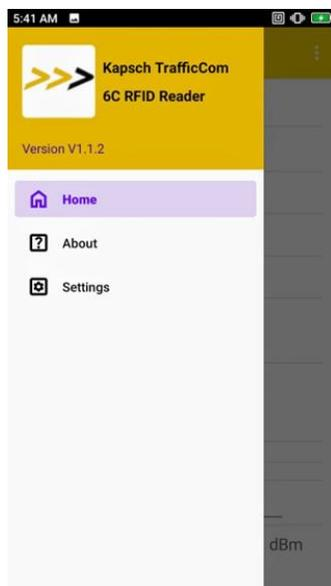
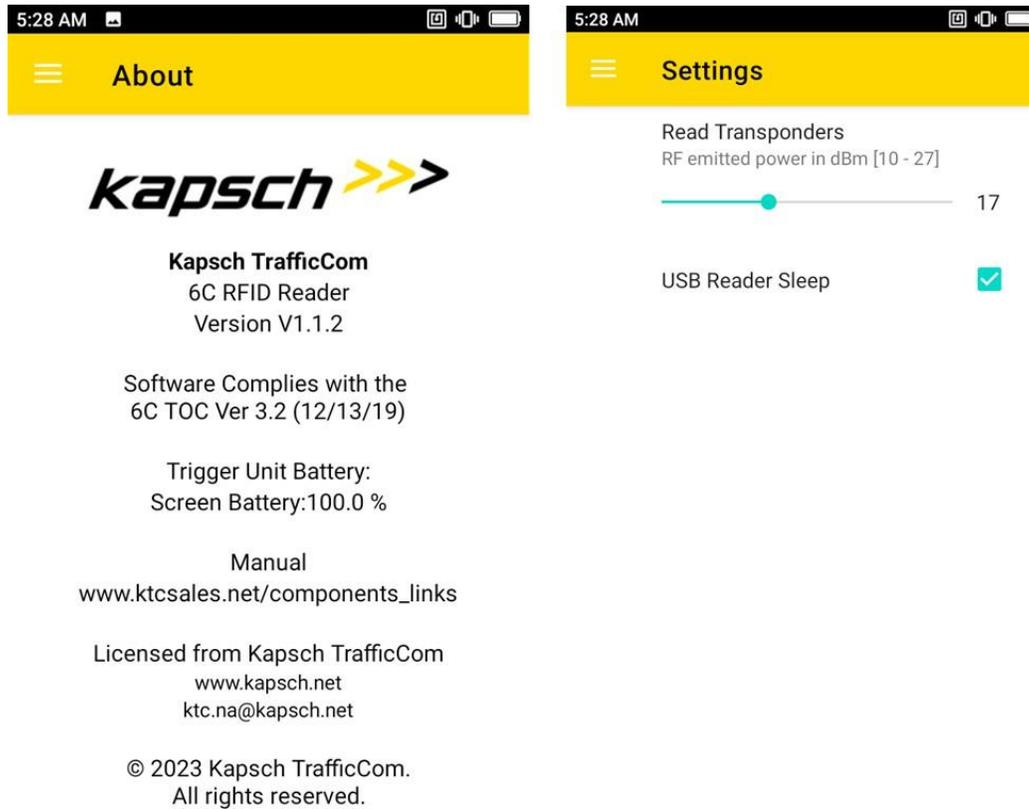

Figure 23 6C RFID Reader App Menu
Figure 24 6C RFID Reader App About and Settings Screen
6. To view information about the Kapsch 6C RFID Reader app, including app version, battery level of trigger unit and screen, link to download the manual, and license information, select the **Men** icon, select **About** in the menu (Figure 23). The About screen is displayed (Figure 24). The settings menu can be used to setup the default RF power. It is recommend to select the Reader Sleep option when in power save mode (Figure 24).